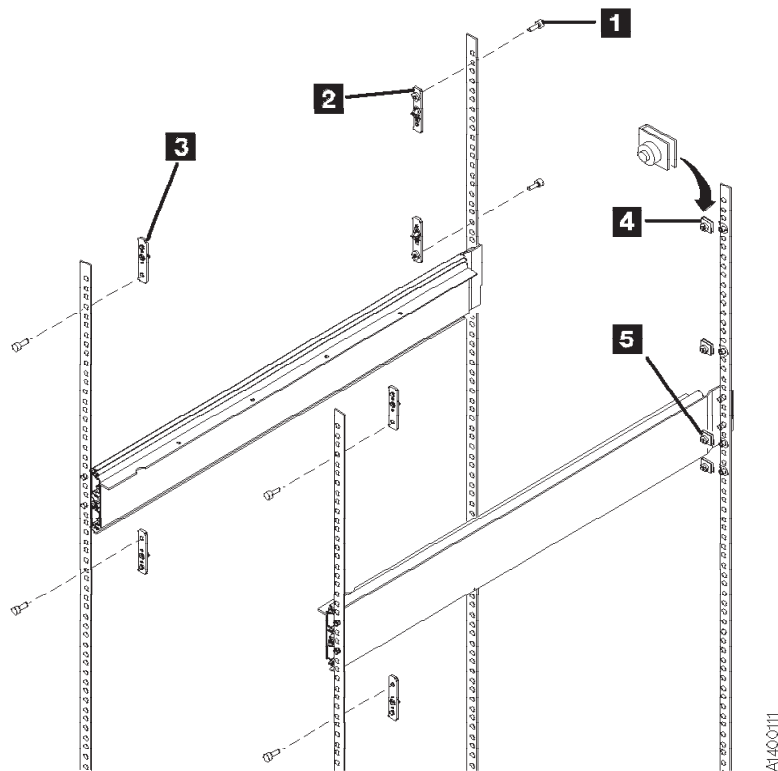

Figure 8-6. Cover Mounting Hardware (Front View)
- ___ 2. Use Table 8-3 and Figure 8-6 to help you install the hardware for drives 0 and 1. Use six screws P/N 1624778 **1** in the mounts.